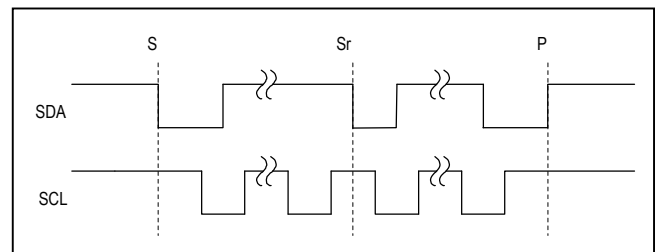

Figure 5. START and STOP Conditions
The master initiates a transmission with a START condition (S), a high-to-low transition on SDA while SCL is high. The master terminates a transmission with a STOP condition (P), a low-to-high transition on SDA while SCL is high (Figure 5). A repeated START condition (Sr) can be used in place of a STOP condition to leave the bus active and the mode unchanged (see the HS Mode section).